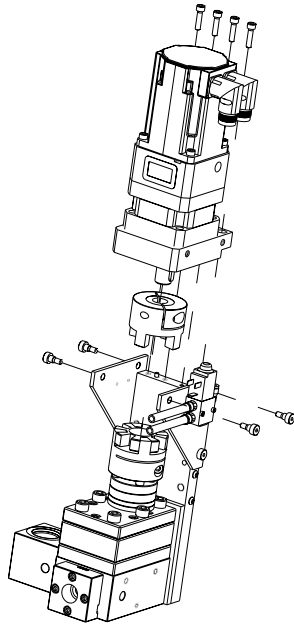

FIG. 20
- Attach servo motor, gear head, and top plate to pump assembly. See FIG. 20.